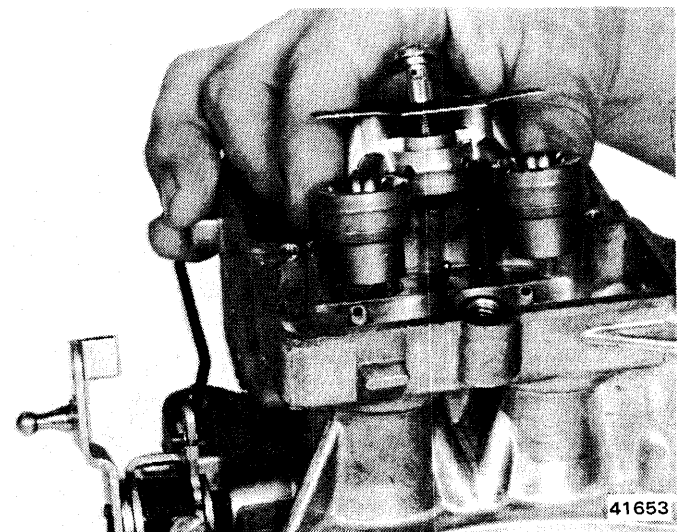
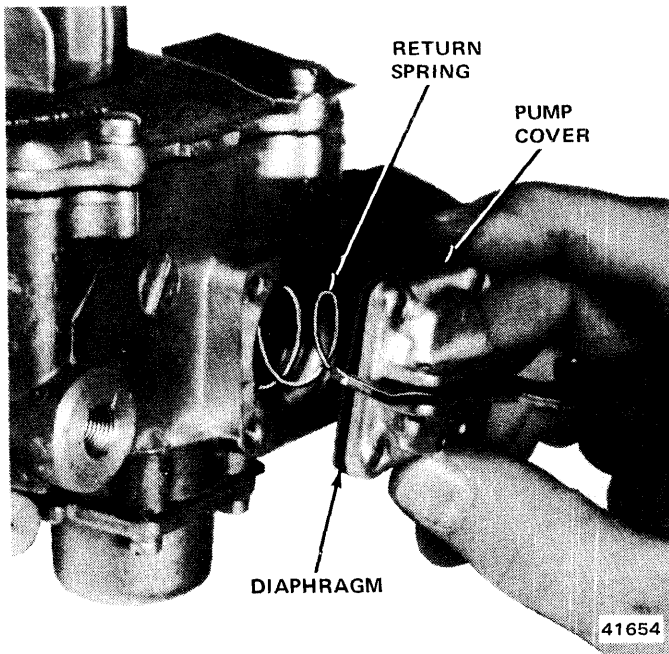

Fig. 4-101 Removing Booster Venturi Assembly
Fig. 4-102 Removing Accelerator Pump Assembly
(13) Remove accelerator pump discharge screw, air distribution plate, booster venturi and gasket (fig. 4-101). Do not attempt to remove tubes from venturi assembly. Invert main body and let accelerating pump discharge weight and ball fall into hand.
(14) Disconnect accelerator pump operating rod from overtravel lever. Remove rod and retainer.
(15) Remove accelerating pump cover attaching screws. Remove accelerating pump cover, diaphragm assembly, and spring (fig. 4-102).
(16) Remove Elastomer valve by grasping firmly and pulling out.